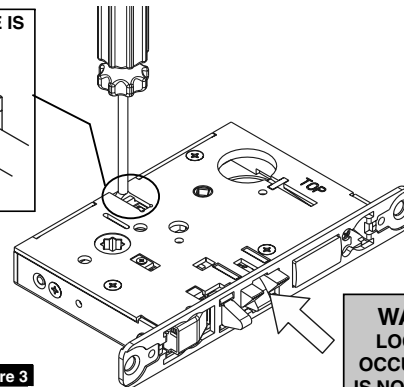

Figure 3
4. Push in latch while holding screwdriver behind latch tail. (Figure 3)